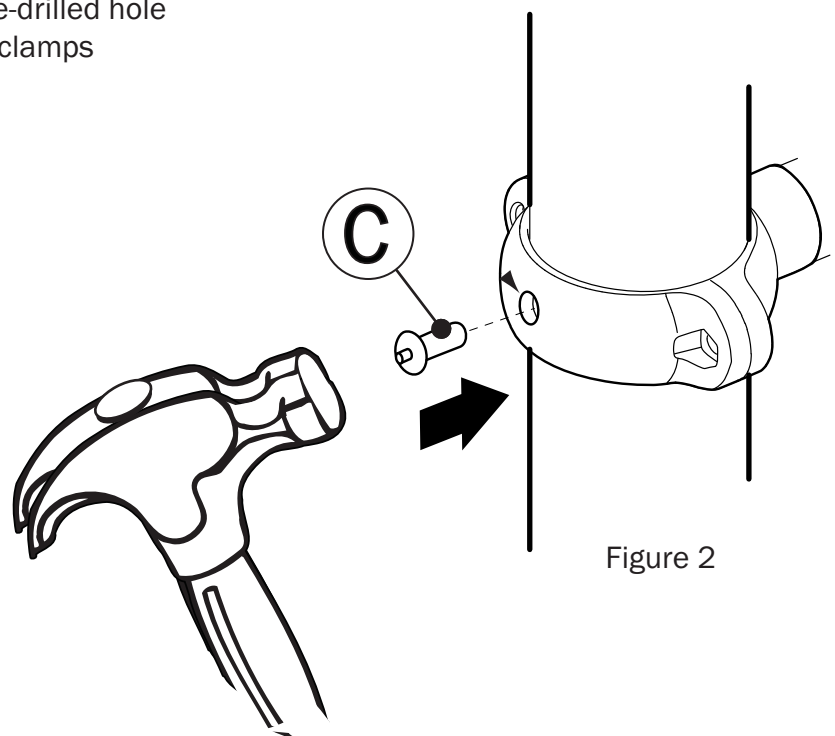

Figure 2
2. Insert Support Post(C) into Mounting Bracket(B). Insert Bolt(G) through larger hole in Mounting Bracket(B), through Support Post(C) and secure with Lock Nut (H). See *Figure 2*.
2. From back side of Slide Hood, place flat side of Panel Clamp(A) against Slide Hood. Insert Bolt(E) into slot of Panel Clamp(A), through hole in Slide Hood and secure with Flat Washer(C) and Lock Nut(D). Repeat for other side. See Figure 2.
2. Insert Clamp Rivets(C) into drilled hole and tap into place with hammer. See Figure 2.